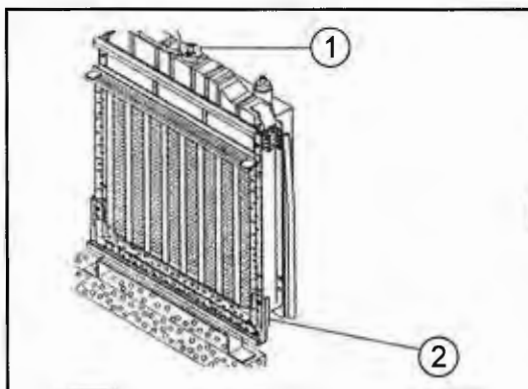

Fig. 42-1 - Filler Cap and Drain Plug
- Stop the engine. Once the cap has cooled enough to touch with your bare hand carefully remove the cap (1). (See Fig. 42-1).
- Open the radiator drain cock (2), remove the engine block drain plug (3) and drain the coolant into a container. (The radiator drain cock (2) is not visible on this illustration). (See Fig. 42-1 & 42-2).